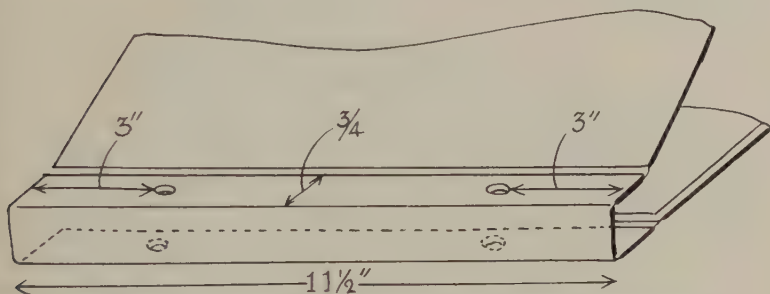

FIG. 102—DIAGRAM FOR POSITION OF POST OR FASTENER HOLES
1. Fold your cover over this way. (Fig. 102.)